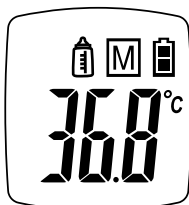

Figure 3.1
1. Press measurement button to turn on thermometer and display screen (Figure 3.1).